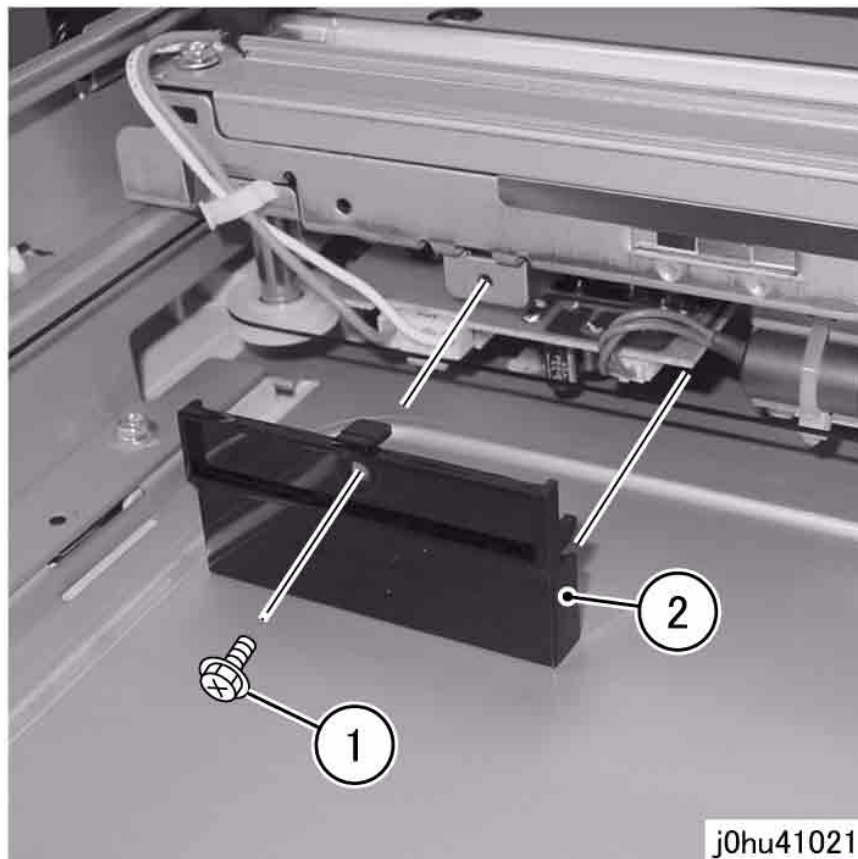

Figure 1 Remove Inverter PWB Bracket
3. Remove the Inverter PWB Bracket 2 (Figure 1).